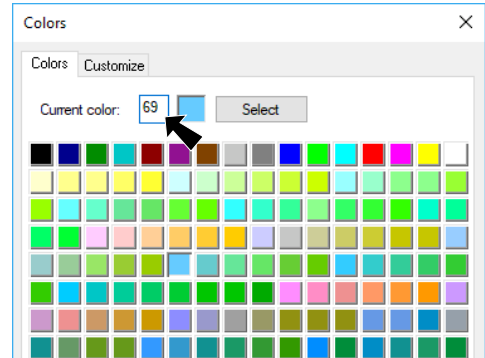

Fig. 6
Step 3. In the Color dialog box **key-in 69** in the Current color input box and click **OK** , **Fig. 6**.